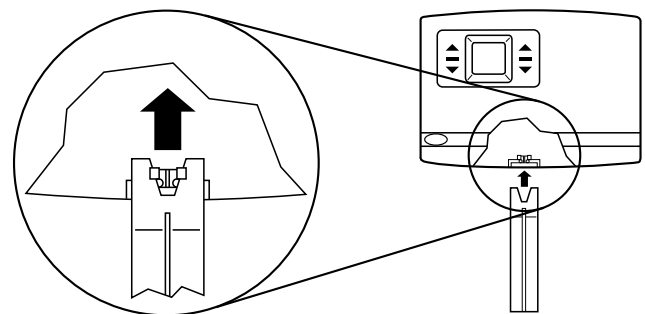

Fig. 2—Removing Thermostat Cover
2. While holding the removal tool with the ridged side pointing toward you, locate the thin groove between the thermostat case and the thermostat housing. Insert the fork of the removal tool into the center of the bottom of the thermostat case. Gently push the removal tool up and lift off the thermostat cover. (See Fig. 2.)